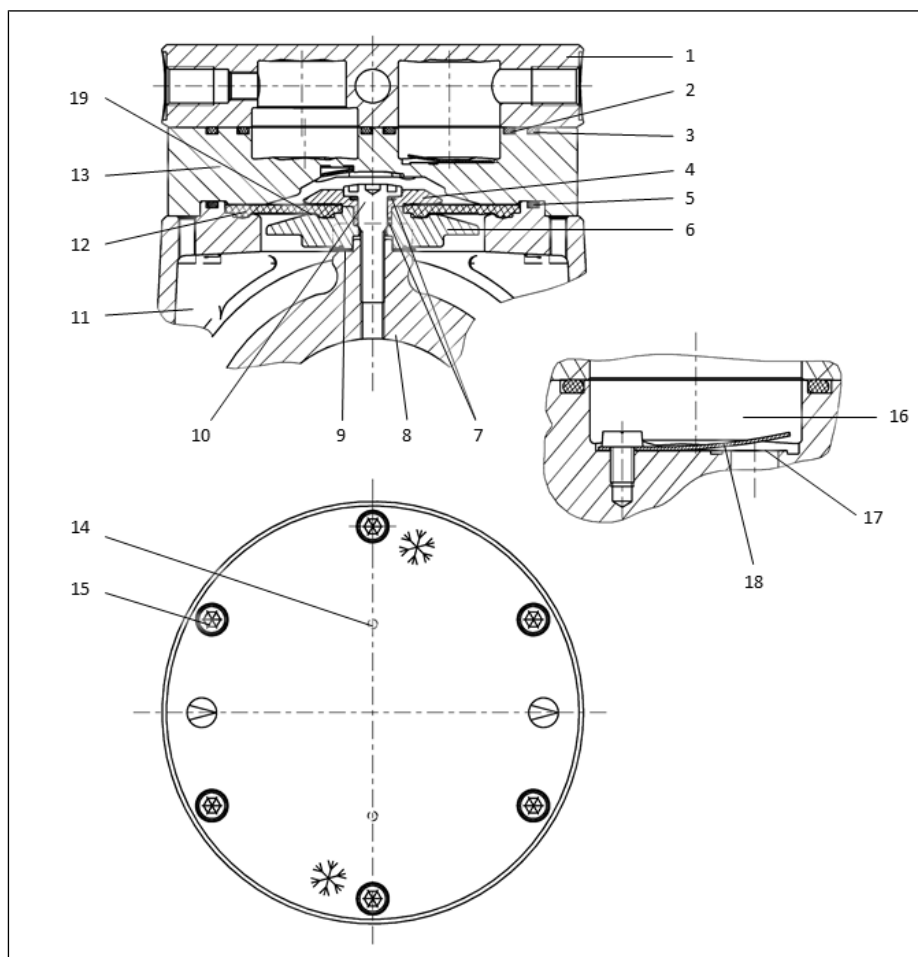

Fig.16 Components of the pump head
** Acc. to Fig. 16
i The following item numbers refer to Fig. 16 unless specified otherwise.